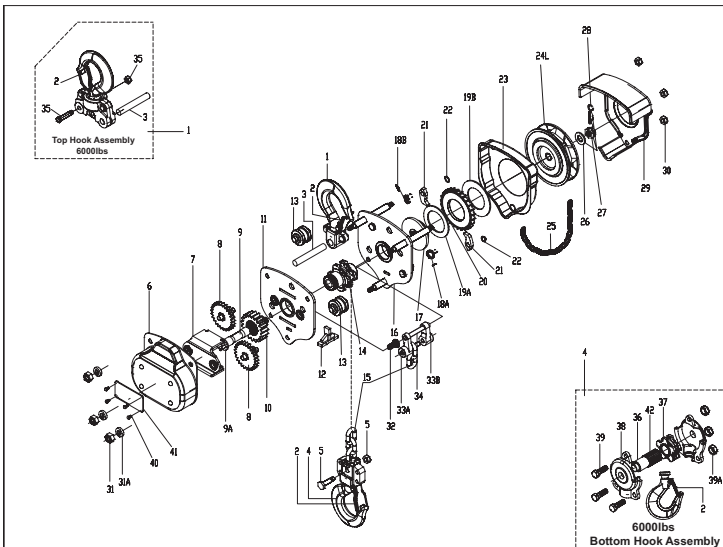

fig.8
10. Please refer to fig. 8, product exploded view for part details.
4. During the assembly of the brake side, respect the brake part order as shown in the exploded view (See fig.8). Screw hand chain wheel down tight. Tighten the nut finger on the input shaft, then back it off approximately one-quarter turn and install the cotter pin.